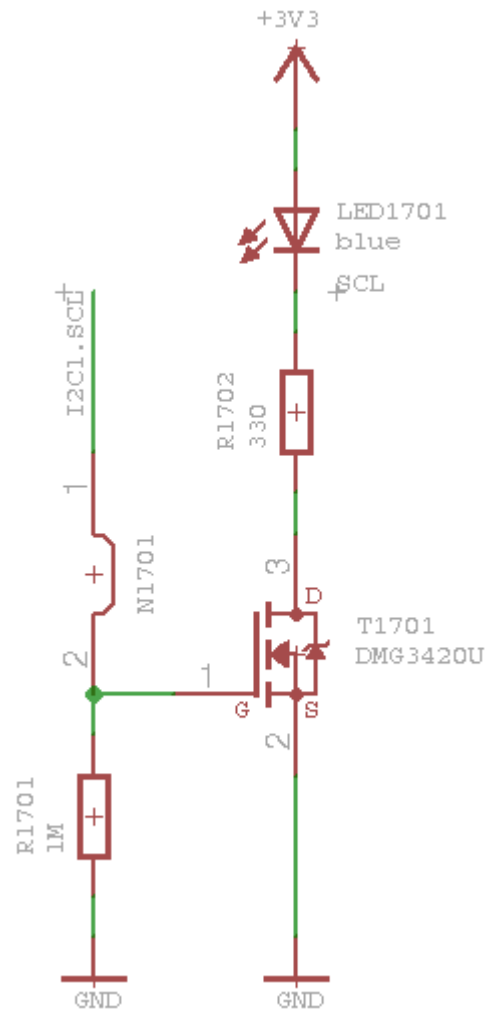

Figure 13: Decoupling Debug Circuitry
2. Make sure debugging circuitry like LEDs pose as less load to the signal affected as possible. Use MOSFET stages as shown in Figure 13.